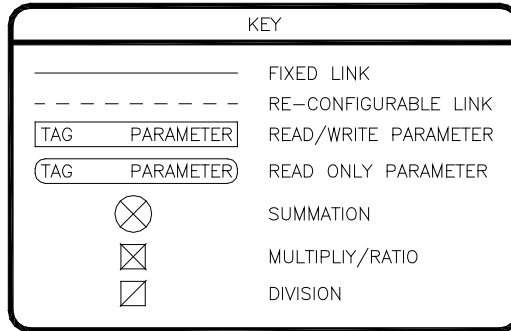

Figure 3: Block Diagram Key
The MicroManager's parameters are grouped into numerous functional blocks. Please refer to drawing D13596 on page 36 for an overall view of all the blocks. Each parameter has a descriptive name and a tag (or number) identifier. The following sections contain each software block diagram and descriptions of each parameter function. Refer to Figure 3 below for key conventions that are used in the block diagrams. Each parameter is one of two types: Read-Only (RO) or Read-Write (RW). Remember that parameter changes must be saved by clicking on the MM Save toolbar button or by setting the Save parameter (parameter 1) to 1.